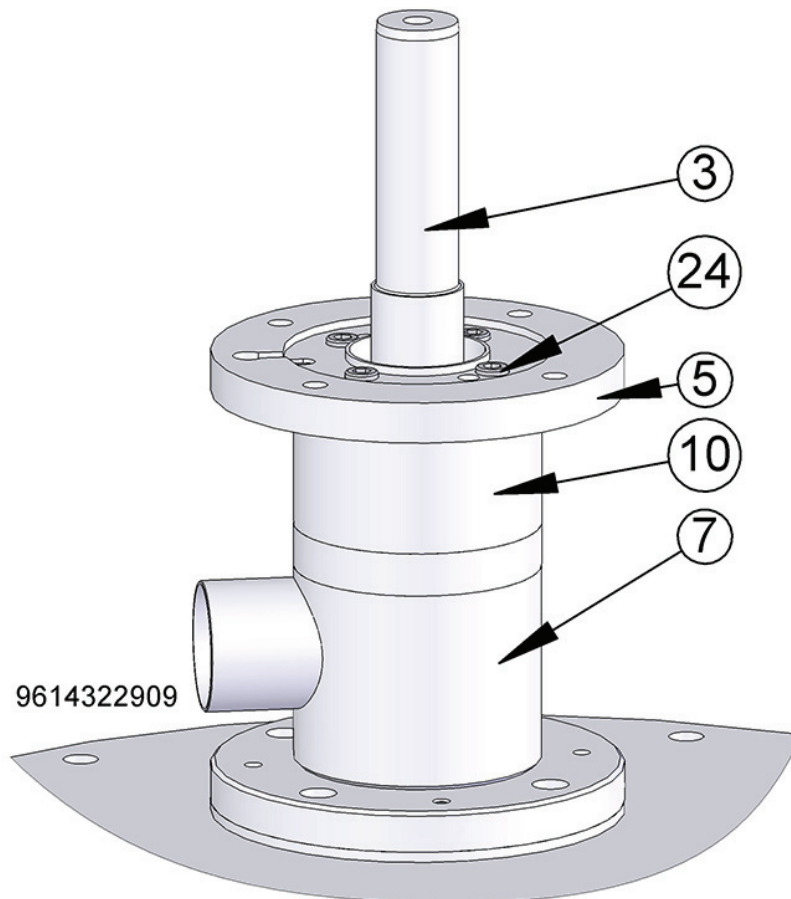

Figure 14, Console with aeration
- A. Figure 14 shows configuration with aeration – the configuration without aeration is without part with pos. 10.
- B. Position the flange pos. 5 in a way that still enables access to the four threads in the pos. 7. Also position the drain in the flange for oil leakage control as required.
- C. Add some Loctite® to the four screws pos. 24 and tighten them sequentially to 51 Nm.